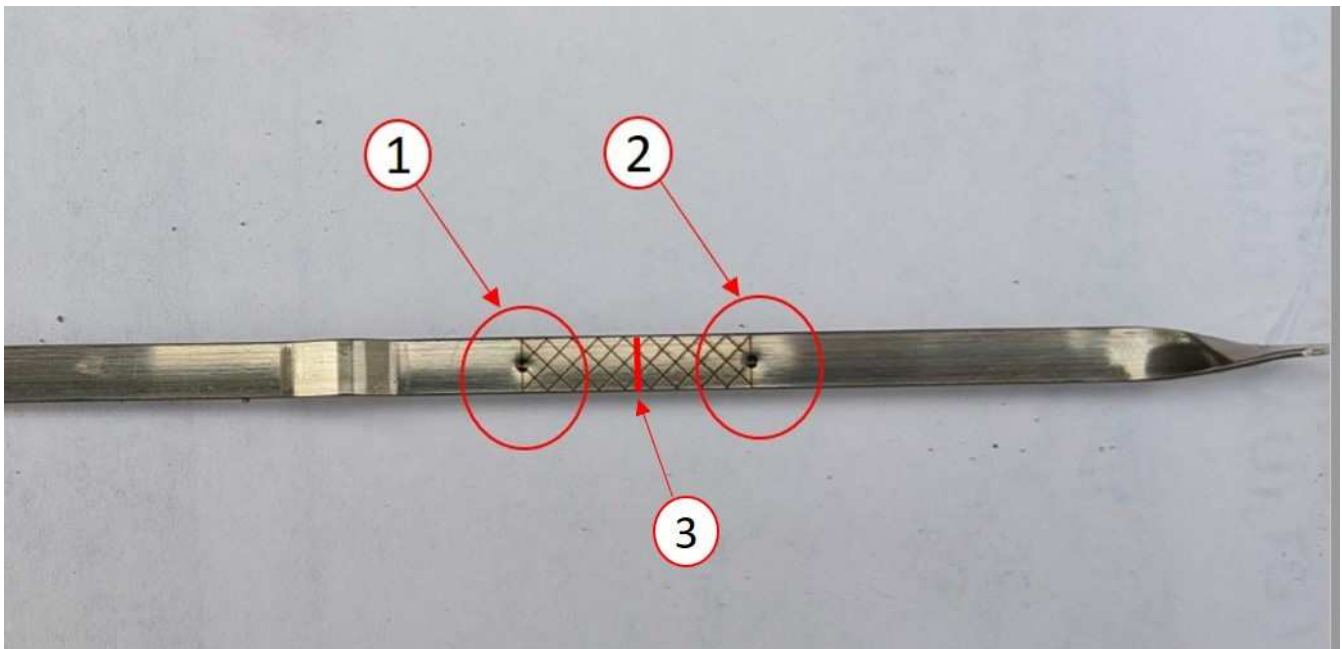

Fig. 2
10. Check the oil level at least 5 minutes after a hot shutdown on a level surface. If the oil level is at or above the half way point between the “FULL” and “ADD” mark the engine is in an acceptable condition and no further service action required (Fig. 2) .
11. If the oil level is below the half way point and “ADD” mark (Fig. 2) , contact Powertrain Service Center for authorization for a long block replacement approval.